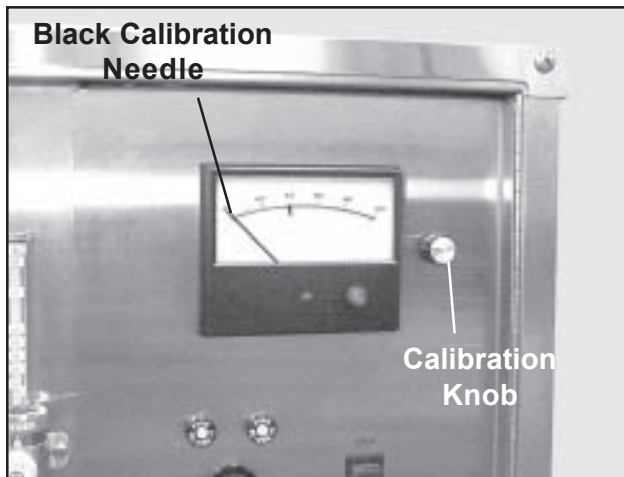

Figure 98. Oxygen Concentration Meter and Calibration Knob
Note: Watch the oxygen concentration meter (Figure 98) as you perform *Step 5*. The black calibration needle moves to the right, then settles down.
3. Using the calibration knob (Figure 98), position the black needle in the oxygen concentration meter to 20.5% (the percentage of oxygen in atmospheric air).